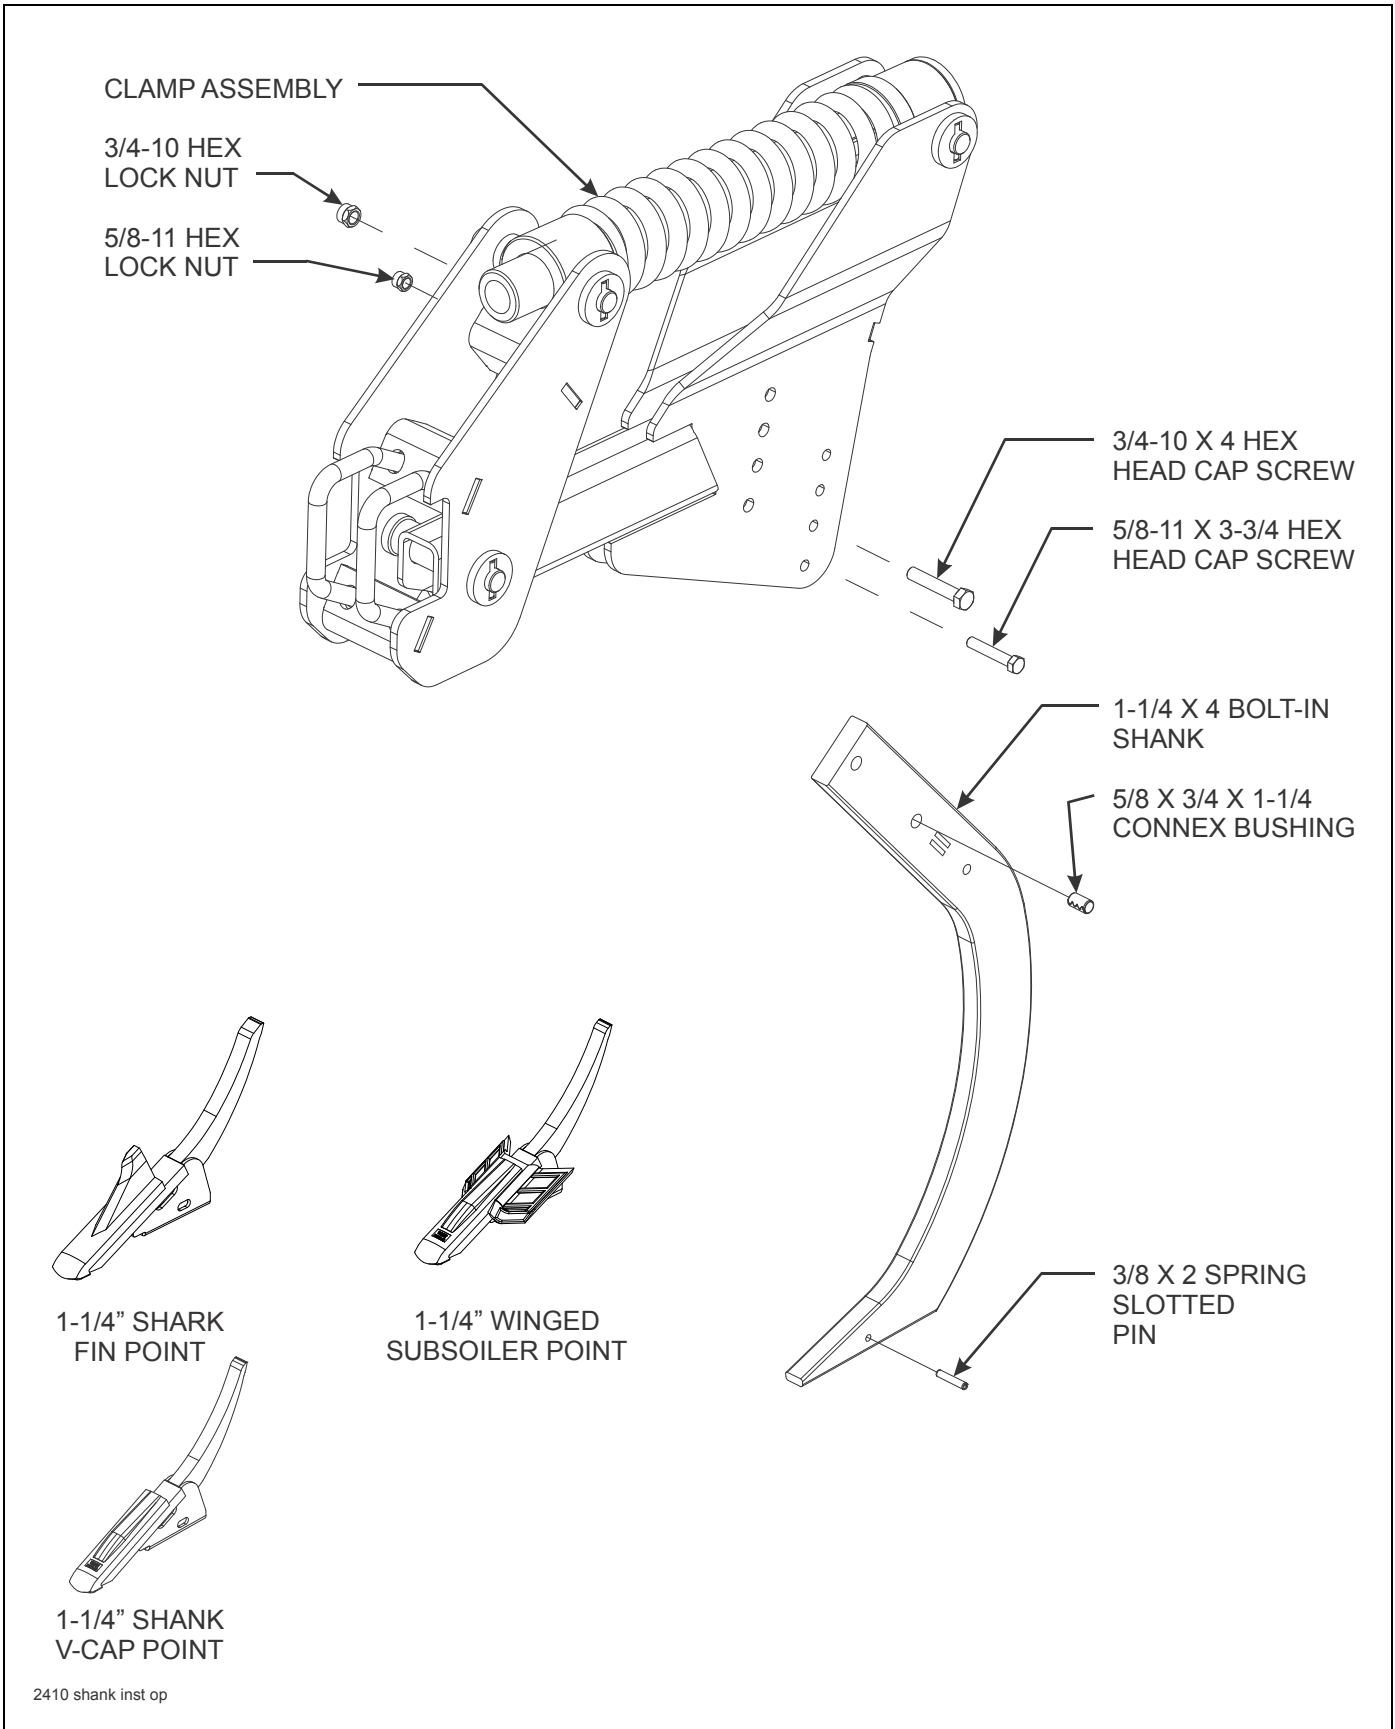

Figure 3-6: Auto Reset Shank and Shovel Installation
1. Attach each 1-1/4 x 4 bolt-in shank to each clamp assembly using 3/4-10 x 4 hex head cap screw and hex lock nut in the top hole and 5/8-11 x 3-3/4 hex head cap screw, 5/8 x 3/4 x 1-1/4 connex bushing, and hex lock nut in the second hole (**See Figure 3-6.**)